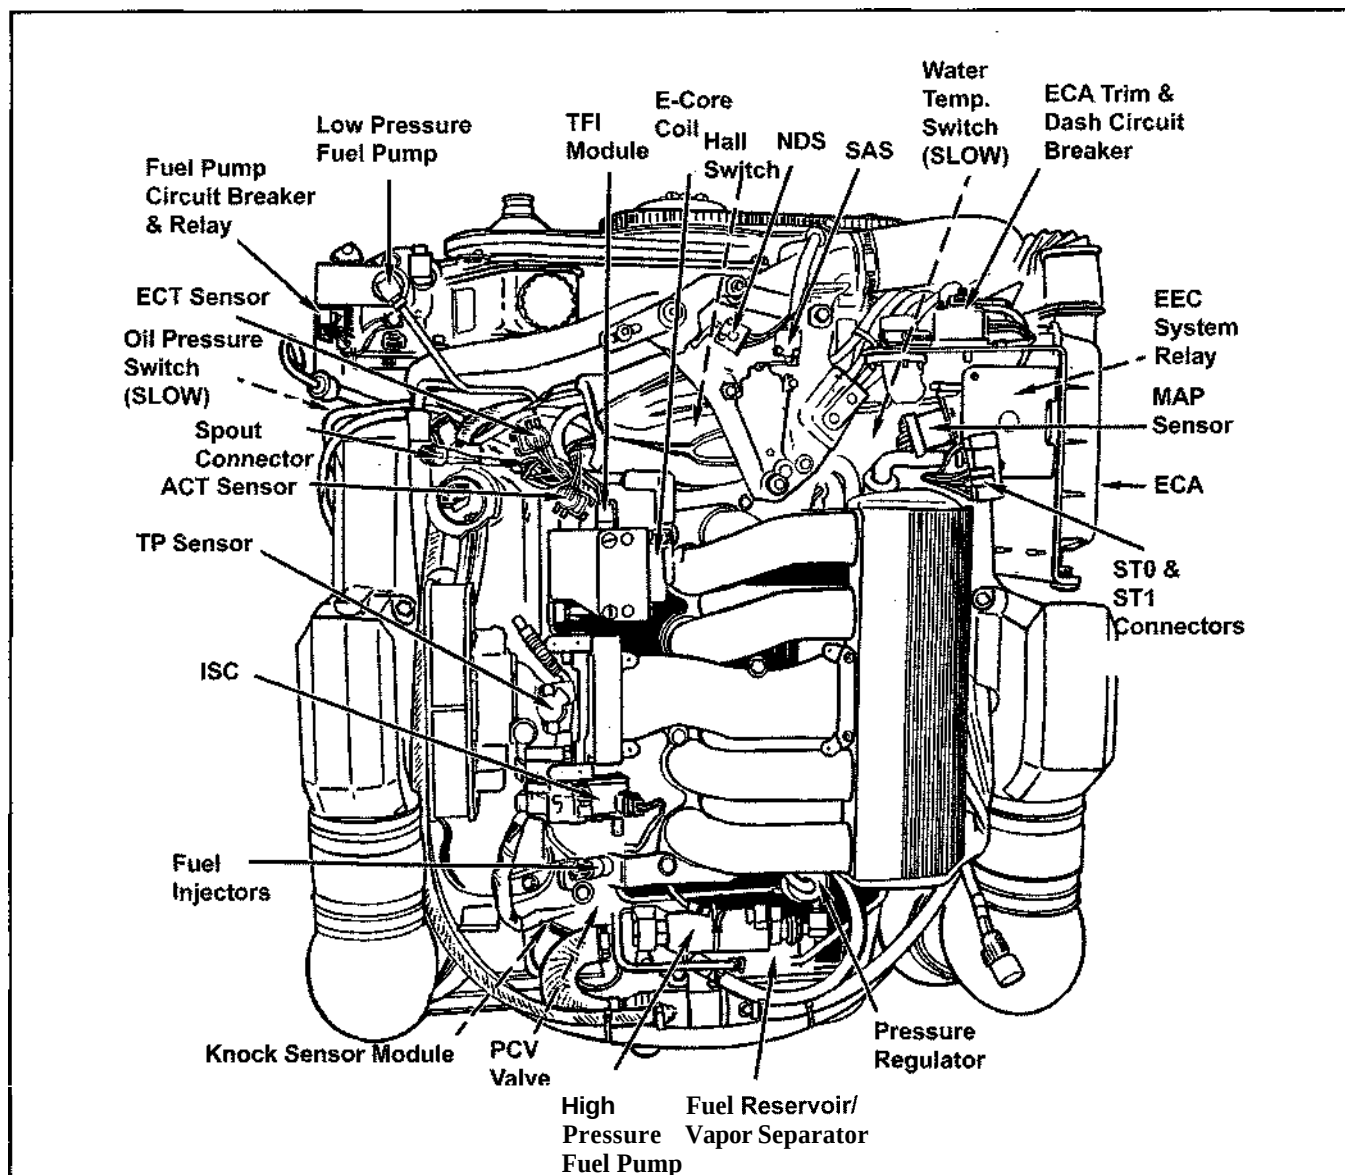

Fig. 2 MFI system component locations—1993-94
- ◆ See Figures 2 and 3
- ◆ See Figures 2,3 and 4
✦ See Figures 2, 3, 9 and 10
✦ See Figures 2, 3, 12 and 13